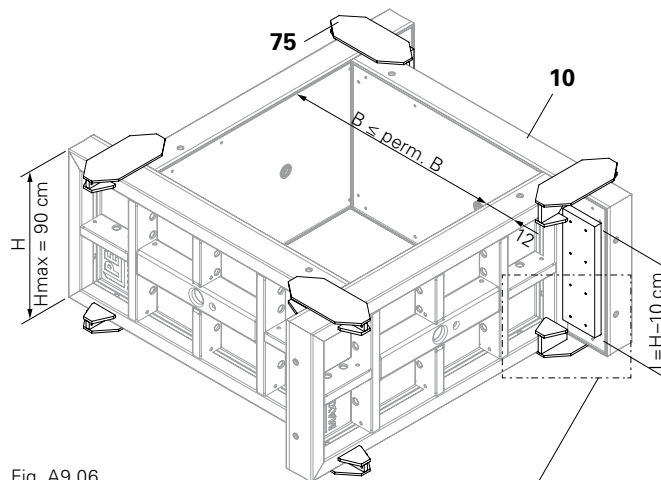

Fig. A9.06
5. Install additional panels, locating boards and Foundation Straps. (Fig. A9.06)